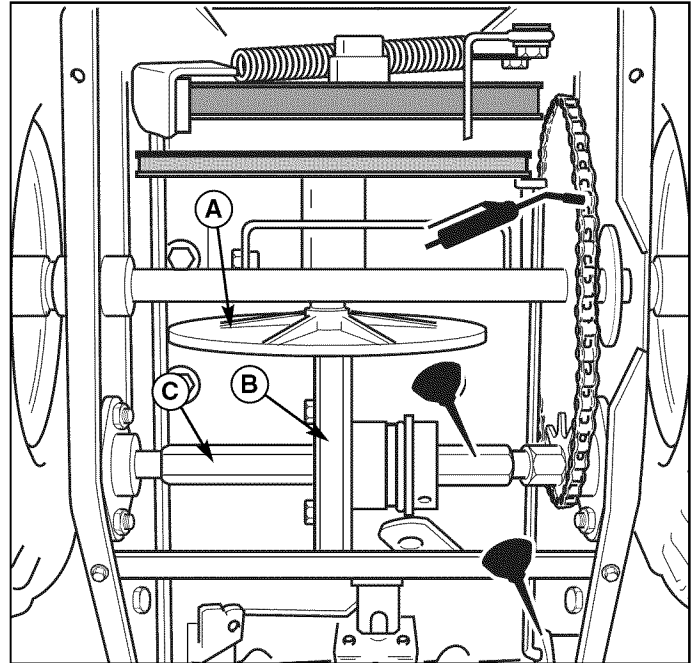

Figure 15. Drive Area Lubrication Points (Bottom Cover Removed)
Apply medium weight (10W) oil to points shown (See Figures 15 - 18).
Apply 5W-50 synthetic motor oil to the friction disc hex shaft (see Figure 15).
1. After 5 hours of use, check for proper adjustment. Readjust clutch cable if necessary by increasing tension on cable. A small amount of bellcrank arm movement is permissible if unit passes operating checks described in the Caution at left. **Optimal adjustment provides 3/16" clearance between traction drive disc and rubber ring on friction disc when drive lever is released** (see Figure 15 for friction disk location).